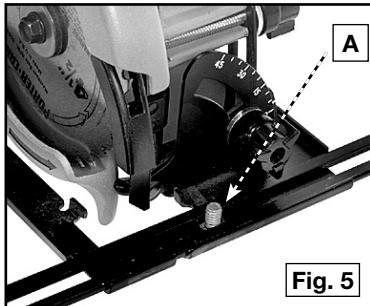

Fig. 5
Adjust the saw for the minimum depth-of-cut. Place the slot in the rip guide over the stud (A) Fig. 5 on the front of the saw base.